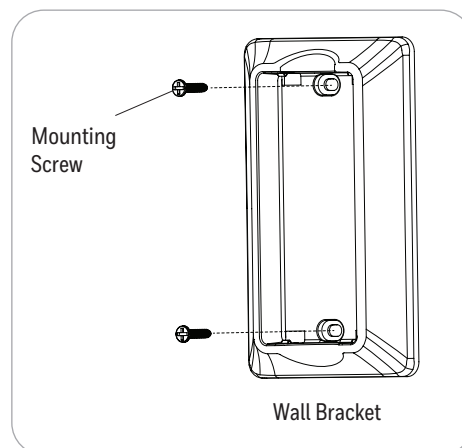

Figure 6.2
- If desired, the wall bracket can be attached to a wall using the mounting screws (Figure 6.2).